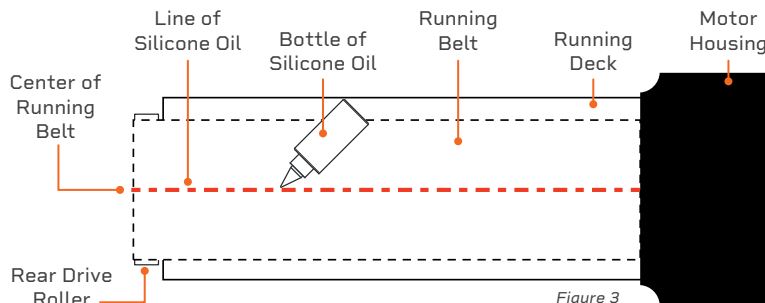

Figure 3
4. Apply one line of silicone oil under the center of the belt, from the front to the back of the treadmill. See *Fig. 3*.